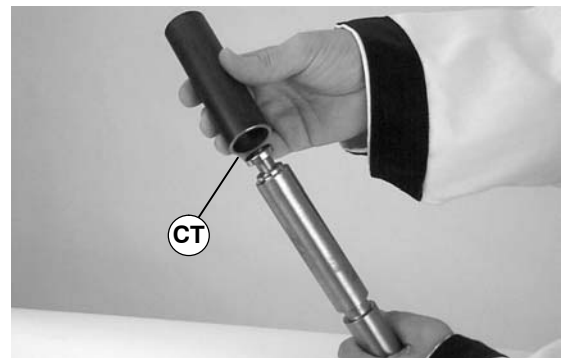

Figure 54
3. Slide the sleeve of tool (part # 450282) (CT of Figure 54) over bearing.